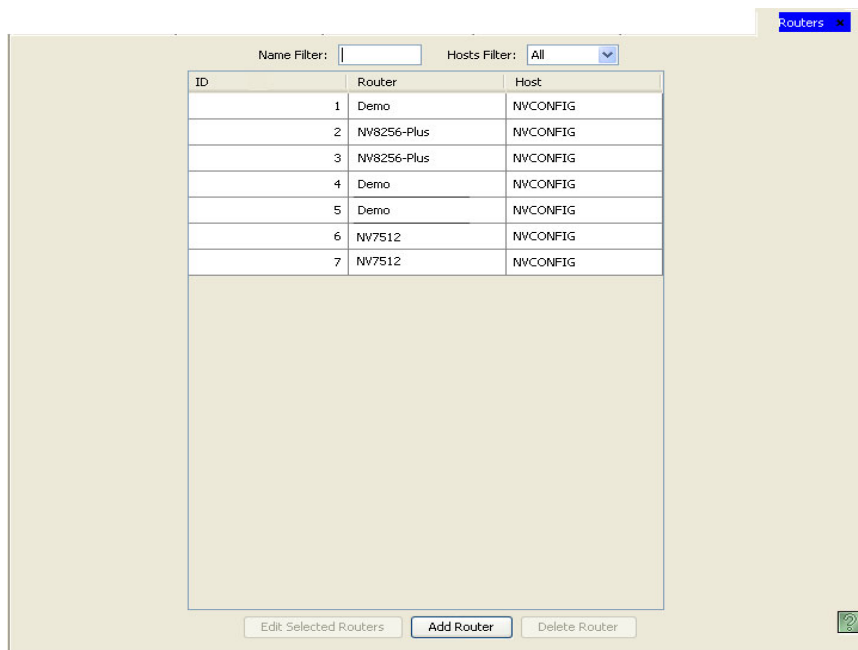

Figure 12-7. Routers Page
- 2 From the navigation area, select the ‘Configuration’ pane and then ‘Routers’. The ‘Routers’ page displays, as shown in Figure 12-7.